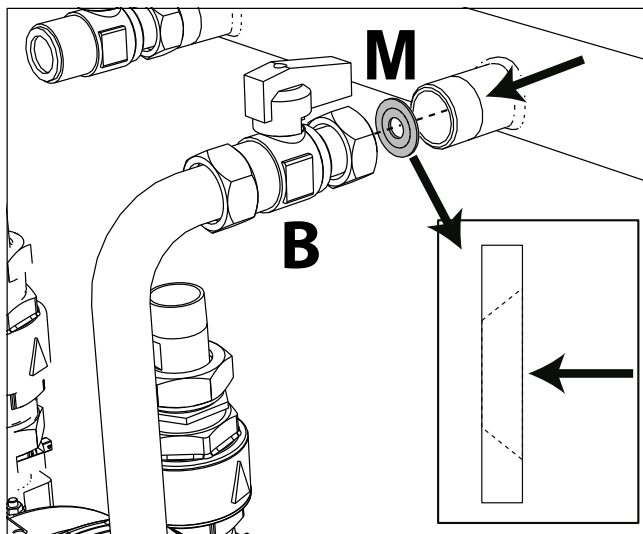

fig. 83- Nozzle for use with LPG
8. In case of **conversion to LPG**, the existing gasket between cock “B” and gas manifold must be replaced with nozzle “M” (fig. 83).
ATTENTION: The nozzle “M” (see fig. 83) **must not** be inserted with the unit running on **Natural Gas**.